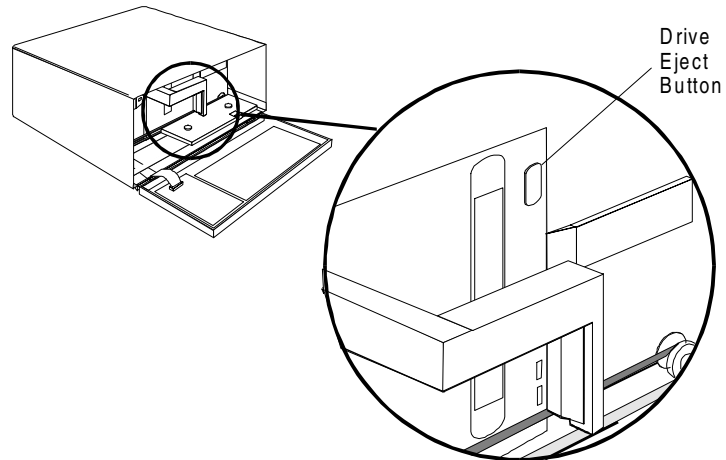

Figure 12. Typical Position of Drive Eject Button.
- Press the eject button on the drive (see Figure 12). It may take 30 seconds or more for the drive to eject the cassette.
- Press the eject button on the drive (see Figure 12).
- ❑ If the drive does not eject the cassette when the program is finished, open the VLS door (the gripper arm should still be fully extended) and press the drive eject button (refer back to Figure 12 if necessary). It will take about 30 seconds for the drive to eject the cassette.